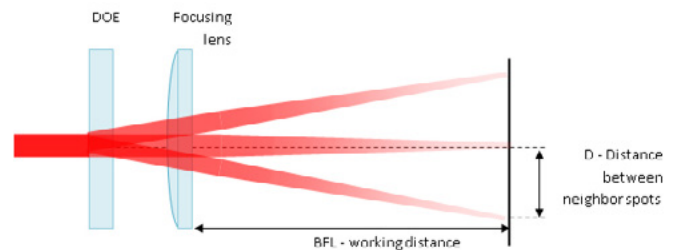

Figure 2: DOE with focusing lens
Normally, the customer wishes to get well-focused spots at a certain distance. This is easily achieved by the addition of a simple focusing lens after the DOE, whose BFL (back focal length) determines the working distance (WD) to the multi-spot focal plane. See figure 2 below.